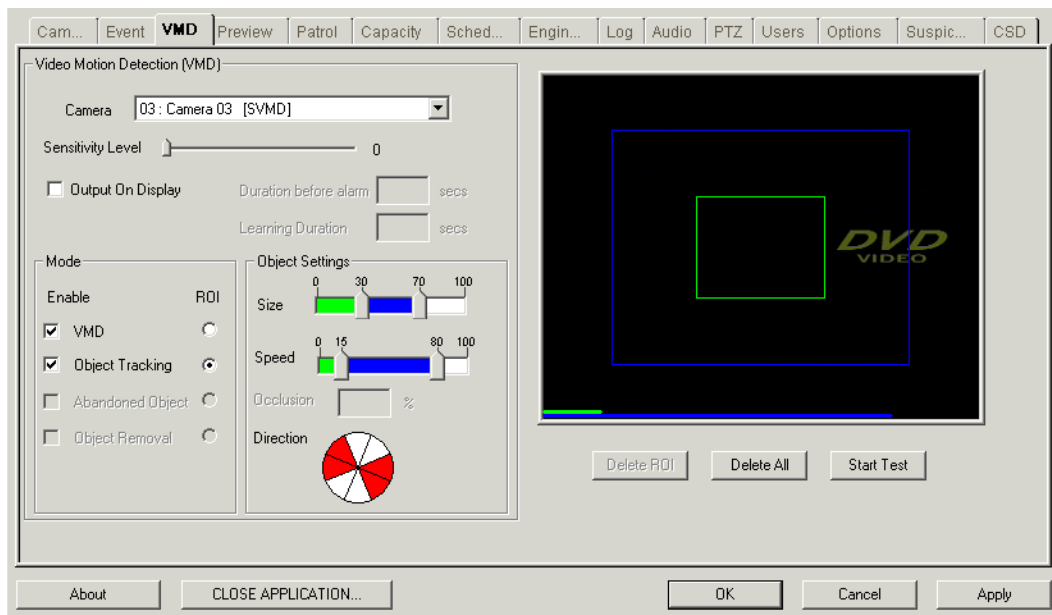

Figure 12-2: Drawing an Object Tracking region of interest for a camera
1. Open the **VMD** menu of the Configuration Console as shown in Figure 12-2.
6. If the size of moving objects is significant, use the sliders on the **Size** scale, shown in Figure 12-2, to specify a minimum size, a maximum size or both for objects to be detected in the ROI.
- 7. If the speed of moving objects is significant, use the sliders on the **Speed** scale, shown in Figure 12-2 on page 118, to specify a minimum speed, a maximum speed or both for objects to be detected in the ROI.